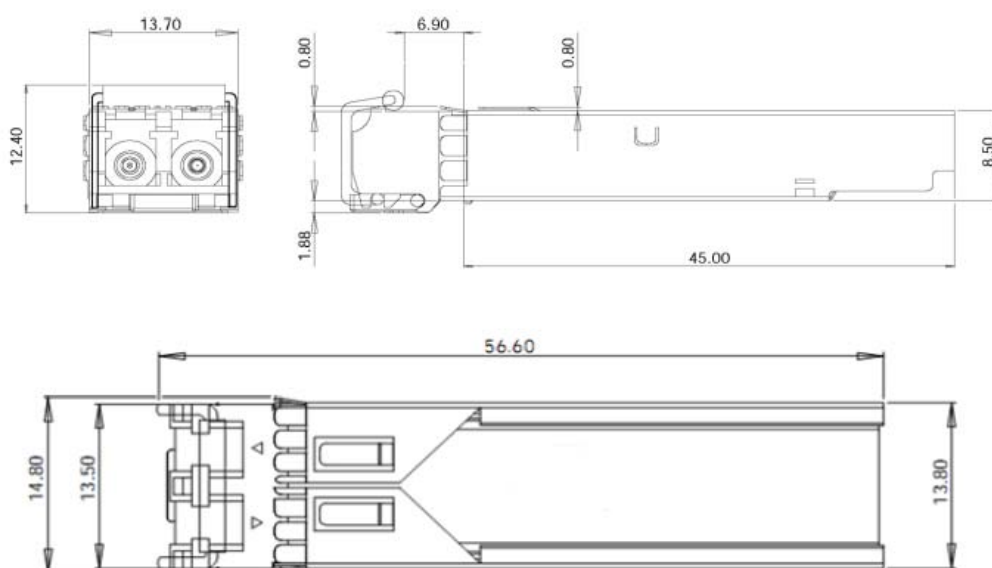

Figure 5. 2.5Gb/s SFP Mechanical Dimensions
2.5Gb/s SFP mechanical dimensions should be compliant with SFF-8432. Detailed dimensions are shown in Figure 5.